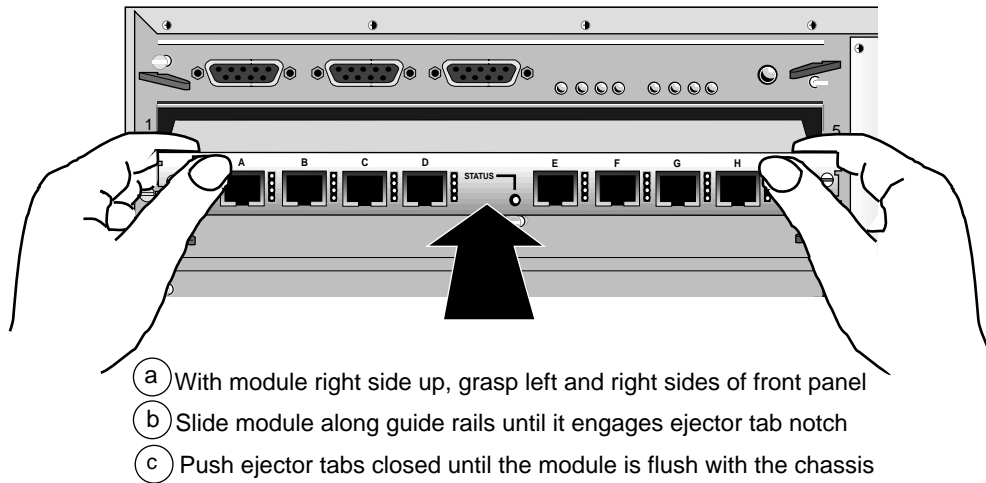

Figure 1-4 Insert Module into Chassis
- 3 Engage the ejector tabs to secure the module in the slot. See Figure 1-4.